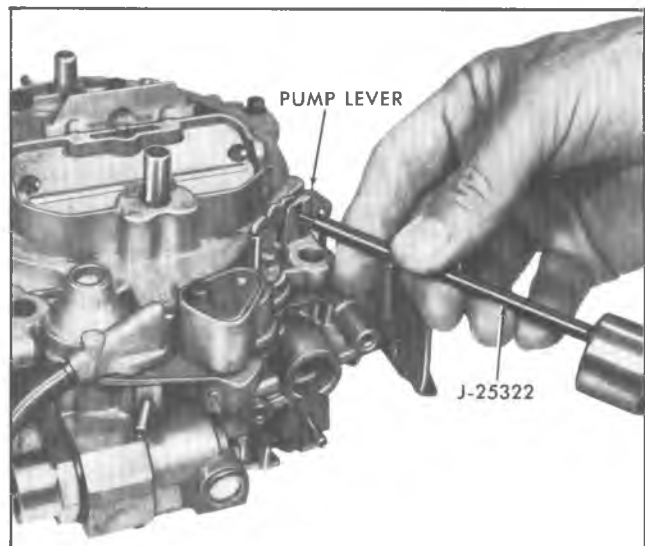

Fig. 4MQ—Removing Pump Lever
4. Using special tool J-25322, drive small roll pin (pump lever pivot pin) inward just enough until pump lever can be removed from air horn. Then remove pump lever from pump rod (Fig. 4MQ).